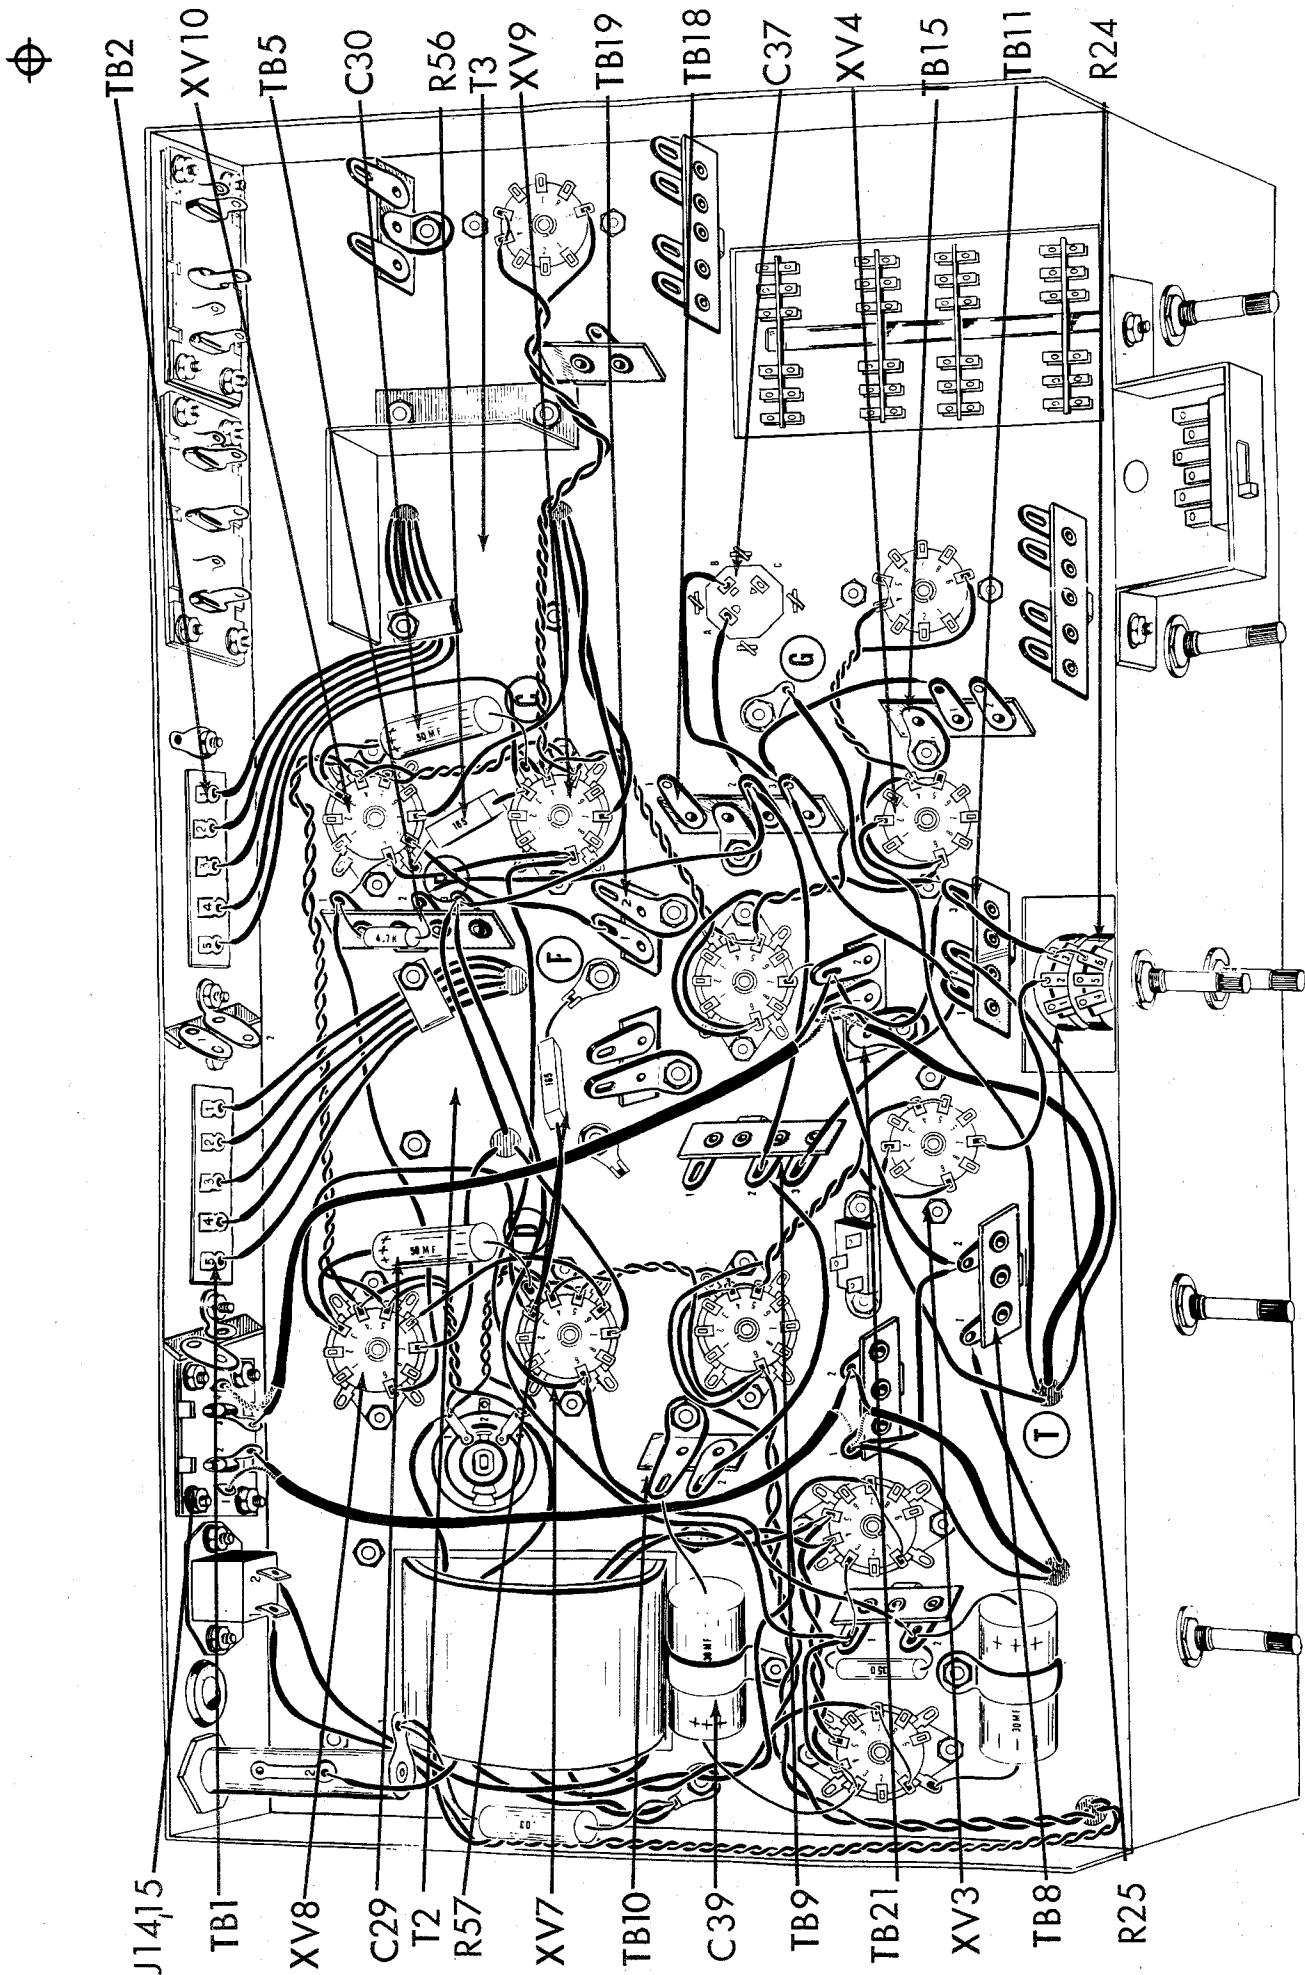

Fig. 8
1. (✓) Fig. 8. Cut the negative (-) lead on the 30mfd electrolytic capacitor, C39, to 1 1/4". Connect to TB10-1 (C).
2. (✓) Fig. 8. From the output transformer, T2, connect the yellow lead to TB1-4 (C), the green lead to TB1-3 (S1), the brown lead to TB1-2 (S1), the black lead to TB1-1 (C), the red lead to TB5-3 (C), the blue lead to XV7-7 (S1), the brown-yellow lead to XV8-7 (S1), and the orange lead to TB1-5 (S1).
3. (✓) Fig. 8. Connect a 3 1/2" piece of green wire from XV7-6 (C) to XV8-6 (C).
4. (✓) Fig. 8. Connect a 3 1/2" piece of green wire from XV10-8 (C) to TB19-1 (C).
5. (✓) Fig. 8. Cut all leads on two 50mfd, 25V, electrolytic capacitors, C29, and C30, to 1". Cover the positive (+) leads on both capacitors with a 3/4" piece of spaghetti. Connect the positive lead of one capacitor to XV10-3 (S2) and the negative (-) lead to ground lug "C" (S1) at XV9. Connect the positive (+) lead of the second capacitor to XV8-3 (S2) and the negative (-) lead to ground lug "D" (S1) at XV7.
6. (✓) Fig. 8. Cut both leads on a 165Ω, 5 watt resistor, R56, to 3/4". Cover one lead with a 1/2" piece of spaghetti and connect XV9-3 (S2). Connect the other lead to ground lug "E" (S1) at XV10. Dress resistor away from surrounding wires.
7. (✓) Fig. 8. From the output transformer, T3, connect the yellow lead to TB2-4 (C), the green lead to TB2-3 (S1), the brown lead to TB2-2 (S1), the black lead to TB2-1 (C), the red lead to TB5-3 (S3), the blue lead to XV9-7 (S1), the brown-yellow lead to XV10-7 (S1) and the orange lead to TB2-5 (S1).
8. (✓) Fig. 8. Connect the brown lead from hole "T" to TB11-2 (C).
9. (✓) Fig. 8. Connect a 2 1/2" piece of red wire from TB9-3 (C) to TB11-1 (C).
10. (✓) Fig. 8. Connect the outer shield from the single conductor cable (from hole "T") to TB21-1 (C) and the inner conductor to TB21-2 (C).
11. (✓) Fig. 8. Connect a 3 1/2" piece of orange wire from TB9-2 (C) to TB18-2 (C).
12. (✓) Fig. 8. Strip back the outer insulation 3/4" from one end of an 8"
13. (✓) Fig. 8. Cut one lead on the 165Ω, 5 watt resistor, R57, to 1 1/2" and cover with a 1 1/4" piece of spaghetti. Connect this lead to XV7-3 (S2). Cut the other lead to 1/2" and connect to ground lug "F" (S1). Dress away from the surrounding wires.
14. (✓) Fig. 8. Connect a 3 1/2" piece of black wire from TB8-2 (C) to TB21-1 (C).
15. (✓) Fig. 8. Connect a 3" piece of black wire from TB21-1 (C) to TB11-3 (C).
16. (✓) Fig. 8. Connect a 3 1/2" piece of black wire from TB11-3 (C) to ground lug "G" (C).
17. (✓) Fig. 8. Connect the grey lead from hole "T" to XV4-2 (S1).
18. (✓) Fig. 8. Connect a 4" piece of orange wire from TB10-2 (C) to TB9-2 (C).
19. (✓) Fig. 8. Connect a 3 1/2" piece of red wire from TB11-1 (C) to TB18-3 (C).
20. (✓) Fig. 8. Connect a 4 1/2" piece of red wire from TB18-3 (C) to C37-B (C).
21. (✓) Fig. 8. Connect a 3" piece of red wire from TB18-3 (C) to TB15-1 (C).
22. (✓) Fig. 8. Connect a 3 1/2" piece of orange wire from TB18-2 (C) to C37-A (C).
23. (✓) Fig. 8. Connect a 1" piece of bare wire to the dual concentric pots in the rectangular hole at the middle-front of the chassis. Connect from R24-6 (S1) to R25-3 (C).
24. (✓) Fig. 8. Connect a 2" piece of black wire from R25-3 (S2) to TB11-3 (C).
25. (✓) Fig. 8. Connect a 1 3/4" piece of green wire from R25-2 (S1) to XV3-7 (S1).